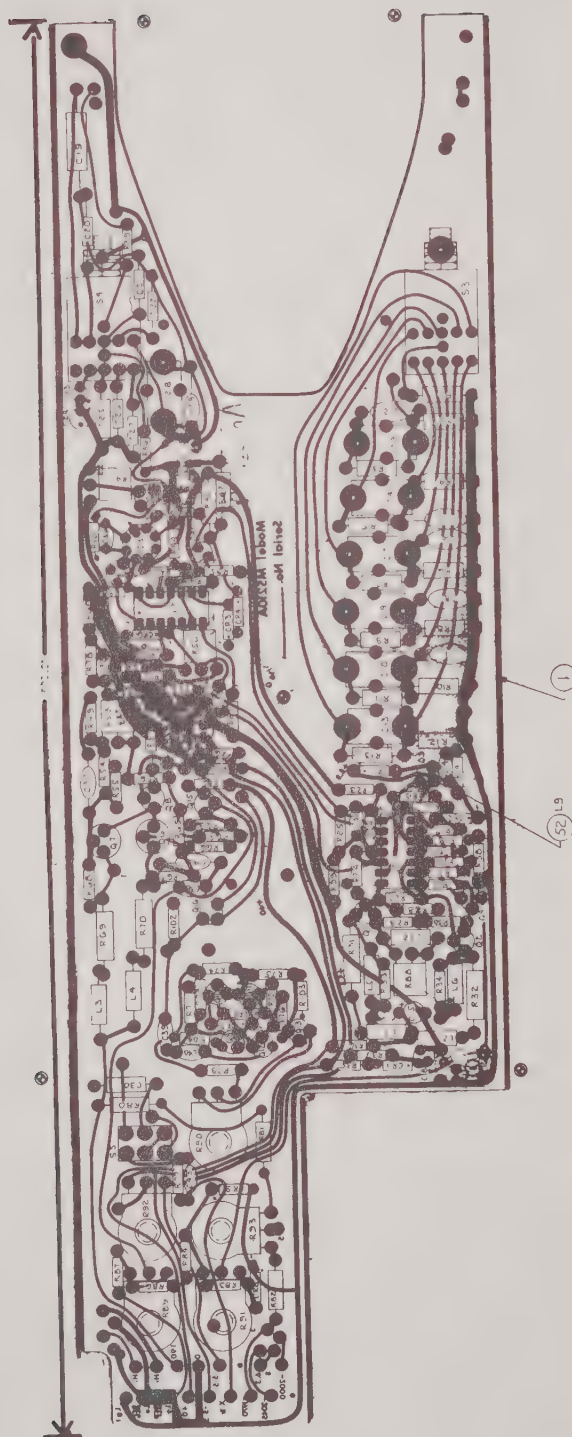

Figure 5-2. Parts Location for MS240
- Step 9. If the signal is not present, make adjustments, for proper alignment of the trigger stability control, variable resistor R50. (Reference Figure 5-2.)